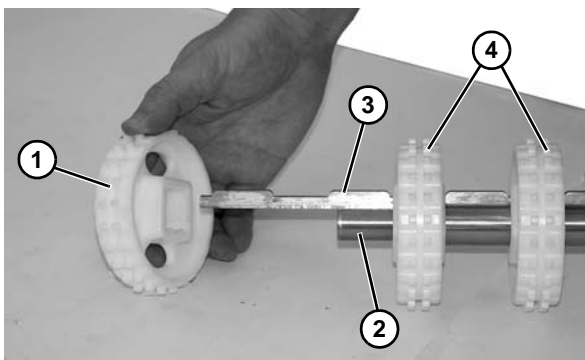

Figure 64
19. Slide entire sprocket assembly slightly outward, and remove the first sprocket (**Figure 64, item 1**) off the drive spindle (**Figure 64, item 2**) and alignment bar (**Figure 64, item 3**).
20. Remove remaining sprockets (**Figure 64, item 4**) off the alignment bar as you slide entire assembly off the drive spindle.
22. Install second sprocket and subsequent sprockets (**Figure 64, item 4**) one by one, while sliding entire assembly onto alignment bar (**Figure 64, item 3**) and spindle (**Figure 64, item 2**).